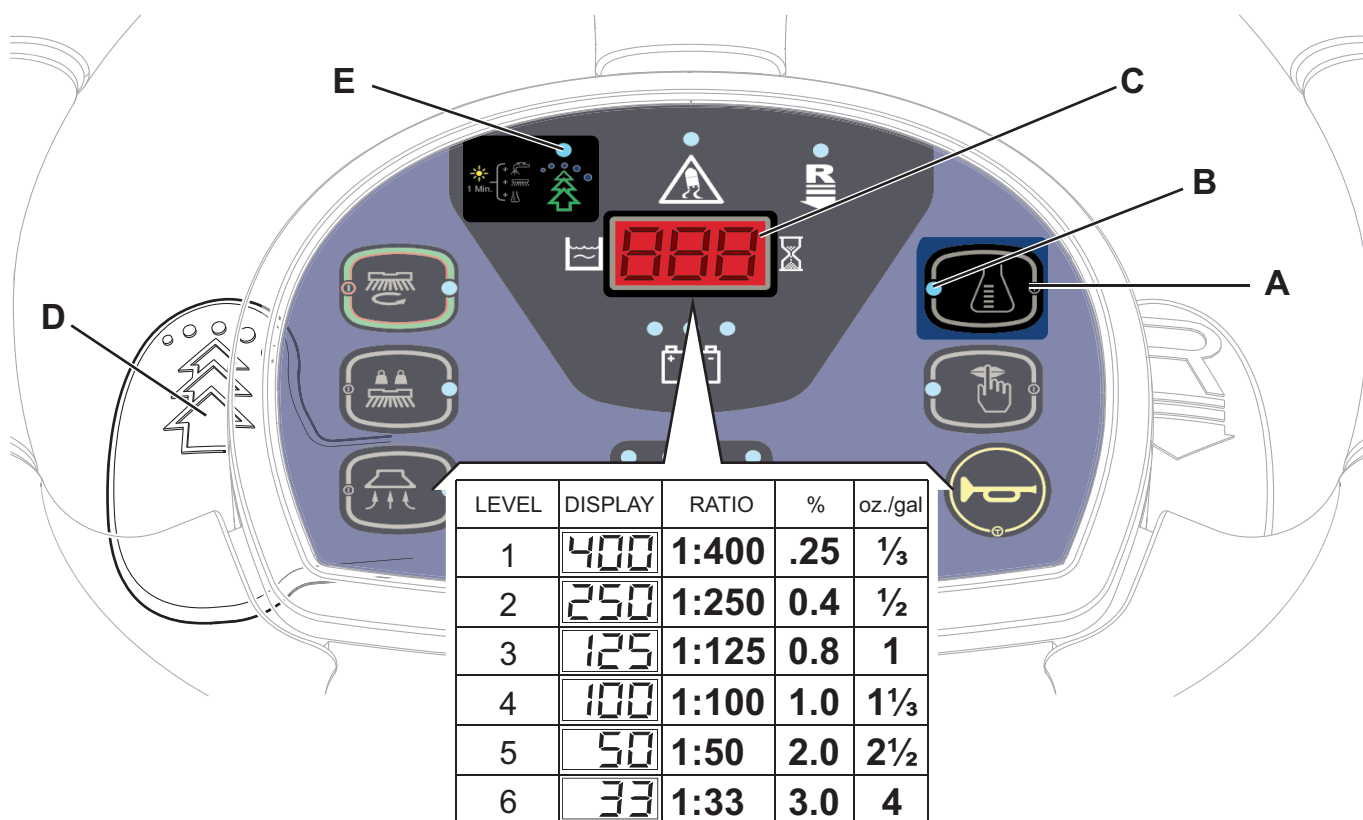

Figure 3
The system used to mix the detergent with the washing water can be activated by pressing the detergent flow control push-button (A, Fig. 3): when the LED (B) is on, the detergent is added to the washing water.
The display (C) shows the detergent concentration level in the solution as shown in the table in Figure 3.
Lift the EcoFlex lever (D, Fig. 3) whenever a stronger washing power is required.
1. Turn off the detergent flow control push-button (A) (the LED (B) must be OFF).
2. Press and hold the detergent flow control push-button (A) until the LED (B) flashes.
3. Release the push-button (A). Press it again shortly to go to the next level shown by the display (C) as shown in the table in Figure 3; repeat the procedure until the desired setting is reached.
4. Wait until the LED (B) stops flashing: the new level is now set.
In order to temporarily disable the system, lift the EcoFlex lever (D, Fig. 3) and keep it lifted for 2 seconds. After this procedure, (LED (D) off), the detergent concentration level is the one which has been set. To enable the system, lift the EcoFlex lever (D) again.